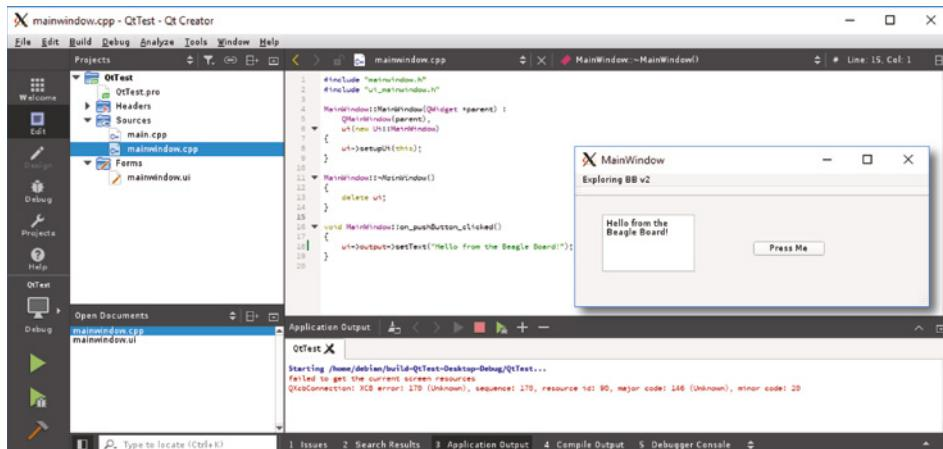

Figure 13-10: Qt Creator IDE test application
- Retitle the button to Press Me and then right-click the button. Choose Go to Slot and then pick a signal such as `clicked()`. This creates a new function in the `mainwindow.cpp` file called `on_pushButton_clicked()`. See Figure 13-10.
The application can be executed by clicking the Play button on the bottom-left side of Figure 13-10. The application window appears on the right side of the same figure. When the Press Me button is clicked, then the text “Hello from the Beagle Board!” appears in the output QTextEdit component.